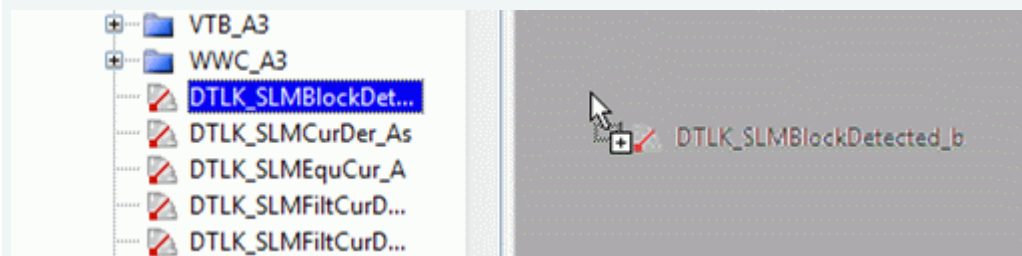

Figure 6-1: Dragging measurement and calibration parameters onto display page
5. Select individual measurement and calibration parameters, use drag-and-drop to move them onto the empty display page (see Figure 6-1), and choose suitable measurement and calibration windows.